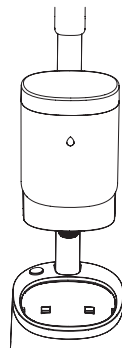

Figure2.4
2.3 Put it into the clean water tank in accordance with Figure 2.4, and hear a "click" to indicate that the installation is in place.